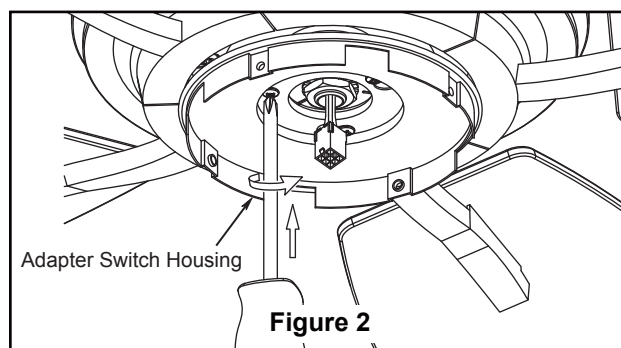

Figure 2
- ☐ **2.** Remove one of the three screws in the support bracket. Slightly loosen the remaining two screws. Assemble the adapter-switch housing to the housing support bracket using the two key slots in the adapter switch housing. Replace the third screw and securely tighten all three screws. (Figure 2)